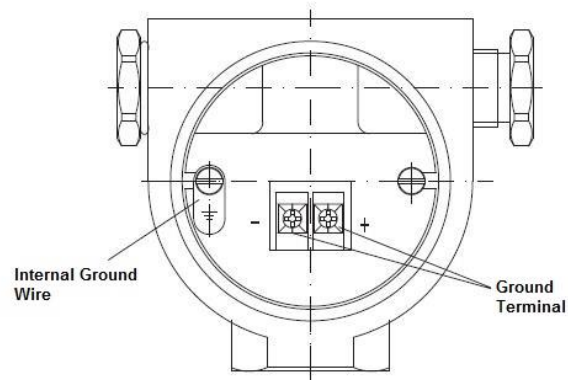

Figure 6 Transmitter Wiring Diagram
6.2.2 Remote transmission device wiring: after removing the cover, you can connect according to the wiring diagram in Figure 6